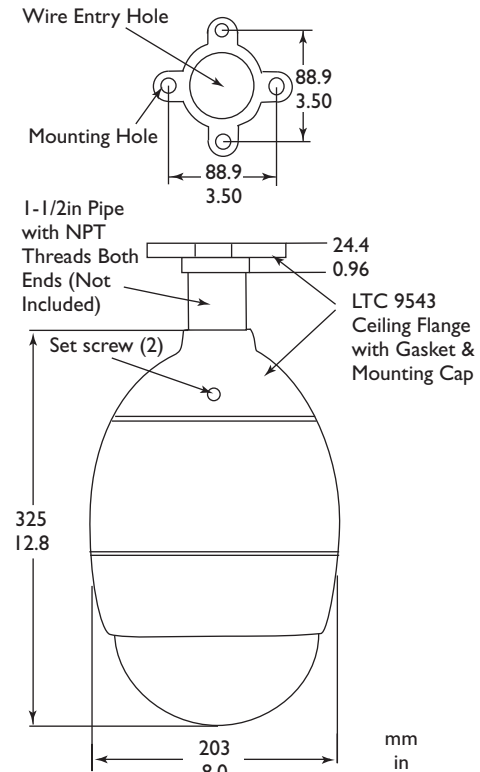

Figure 1: Ceiling/Pipe Mounting
3. Feed the cables through the ceiling mount and fasten the mount to the ceiling using 4 fasteners (FIGURE 1). Allow enough cable for the length of the pipe + 1m (3ft). 10mm (3/8in.) bolts/studs are recommended. Bolts should be secured with nuts, washers, and lock washers. Surface fasteners and surface should withstand 270kg (600lb).